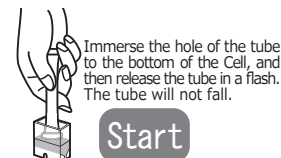

Fig.5
4. Submerge the aperture of the tube in the sample, and release your finger to suck the whole amount of the sample at once. At the same time, press [Start]. (Fig.5)